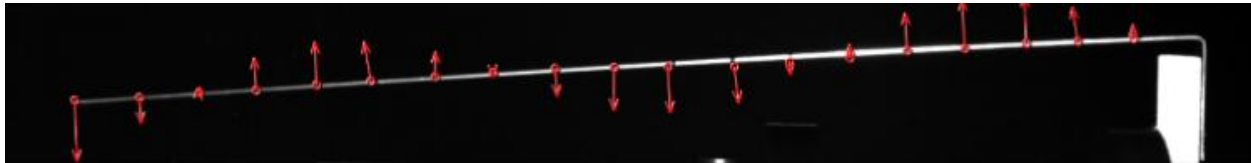

Fig. 6. Vector Overlays
**Vector overlays** are a useful way to visualize complex motion across a full field of view. Any location that has been measured can be transformed into a vector since the X and Y components have been determined. This makes it particularly useful for complex fields of motion where the vectors visually correlate the motion to show particular patterns. This is illustrated in Fig. 6, vectors highlighting the 4th bending mode of a cantilever beam through a filtered, Motion Amplification® video. During playback, these vectors are animated, showing the dynamic motion of the object as it moves. These modes are further discussed in [4].